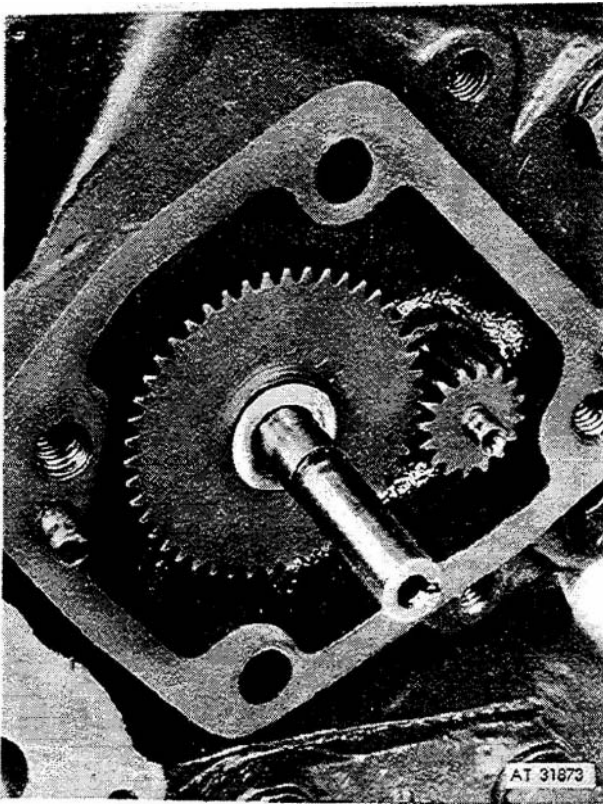

Figure 3-77. Proper installation of speedometer gears.
(18) Position drive gear (10) and washer (11) in speedometer housing (50). Position assembled speedometer gear shaft (55) in housing (fig 3-77).